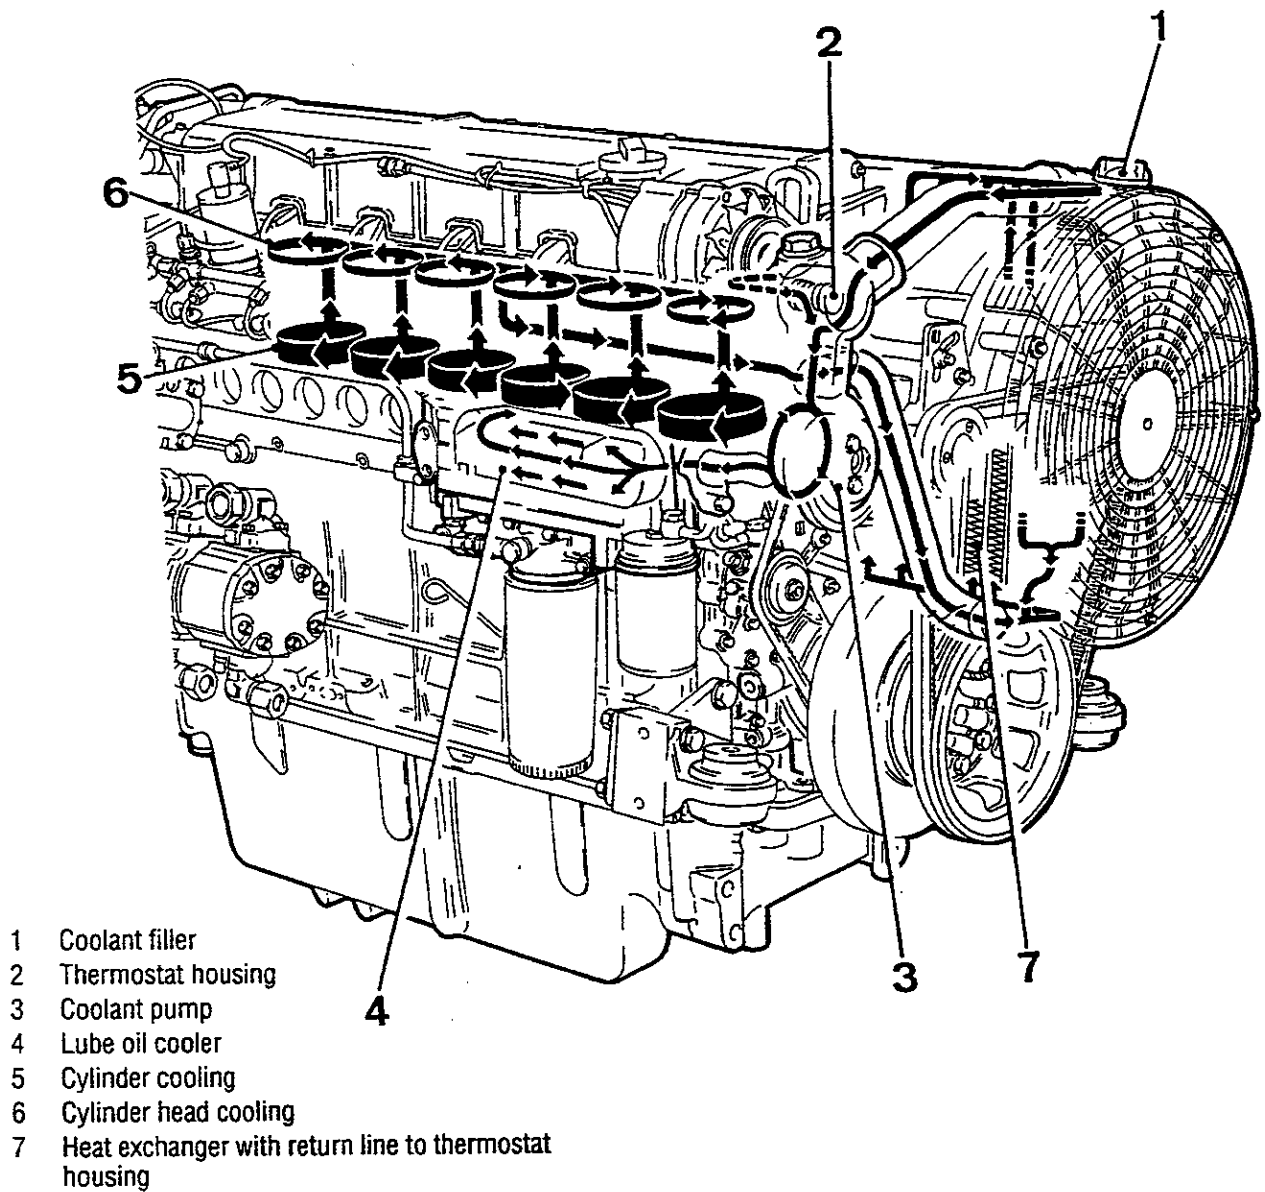

FIGURE 1.3 COOLING SYSTEM
1.10.1 A radiator and fan are used to effectively dissipate the heat generated by the engine. The radiator is mounted directly to the engine. A centrifugal-type water pump is used to circulate the engine coolant (Figure 1.3). A blocking-type thermostat is used in the water outlet passage to control the flow. This provides fast engine warmup and a regulated coolant temperature.